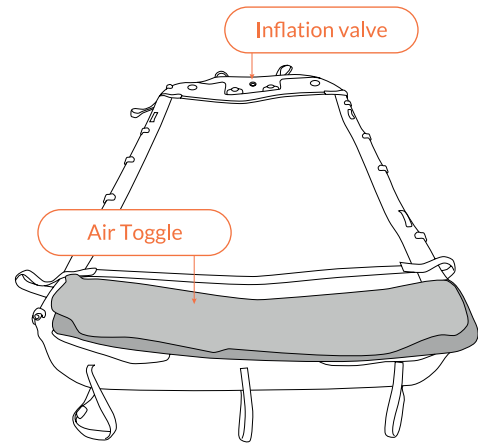

Fig 47 – Deflated Air Toggle placed over D-rings
2. Lay the deflated Air Toggle across the Platform D-rings (to protect the foam from any marks or dents) at the opposite end to the Platform inflation valve (Fig 47).